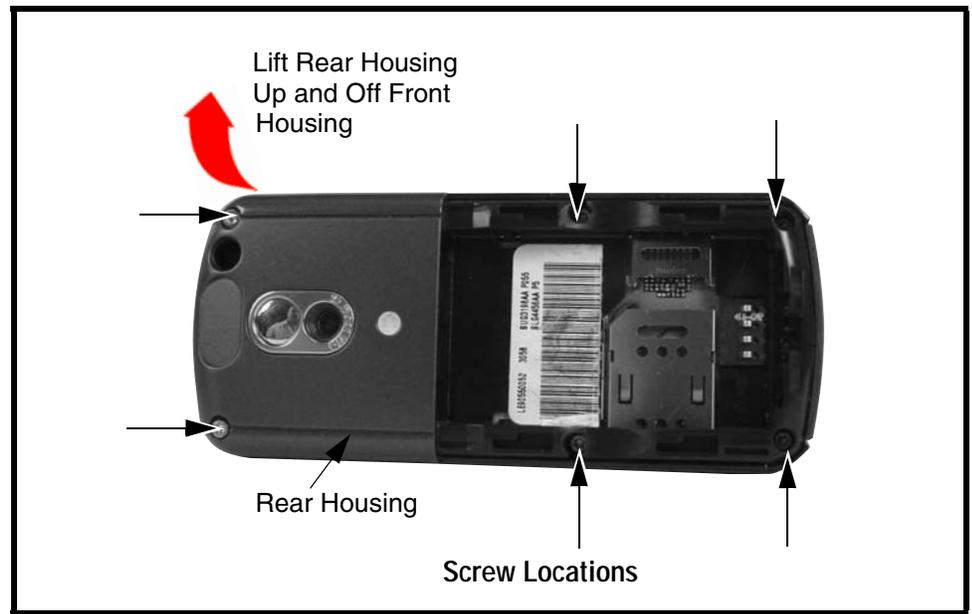

Figure 8. Removing and Replacing the Rear Housing
3. Using a Torx® driver with a T-6 bit, remove the 6 screws from the rear housing (see Figure 8).